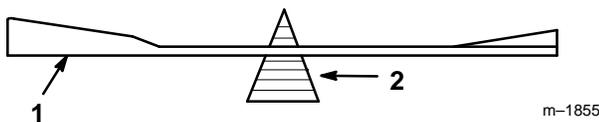

Figure 22
2. Check the balance of the blade by putting it on a blade balancer (Fig. 22). If the blade stays in a horizontal position, the blade is balanced and can be used. If the blade is not balanced, file some metal off the end of the sail area only (Fig. 20). Repeat this procedure until the blade is balanced.